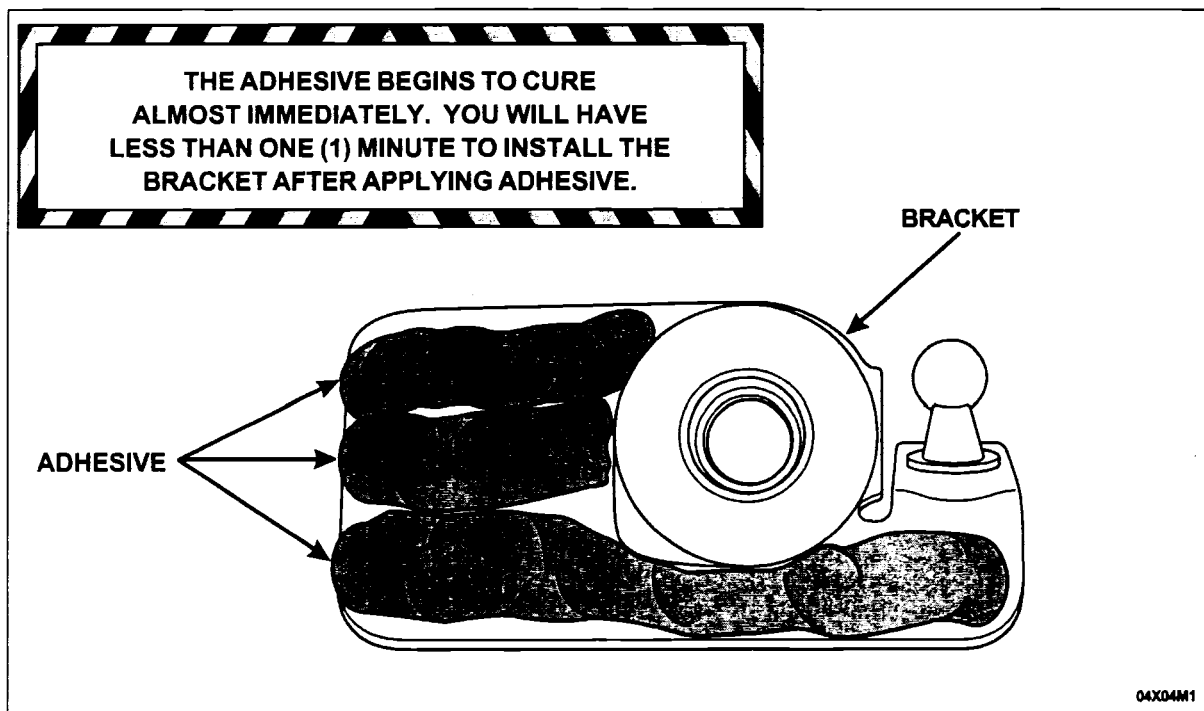

FIGURE 13
After the primer has dried for fifteen (15) minutes, apply three (3) **large** beads (9-10 mm in diameter) of adhesive to the backside of the *new* left-side bracket. See Figure 13.
14. Apply three (3) **large** beads (9-10 mm in diameter) of adhesive to the backside of the **new** right-side bracket. See Figure 13.